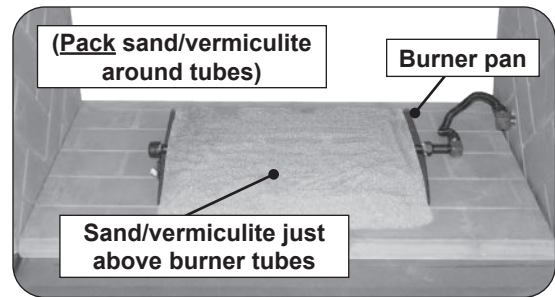

Fig. 12-1 Place sand/vermiculite
1. Partially fill the burner pan with the sand/vermiculite until it rests at a level just above the burner tubes as shown in Fig. 12-1.